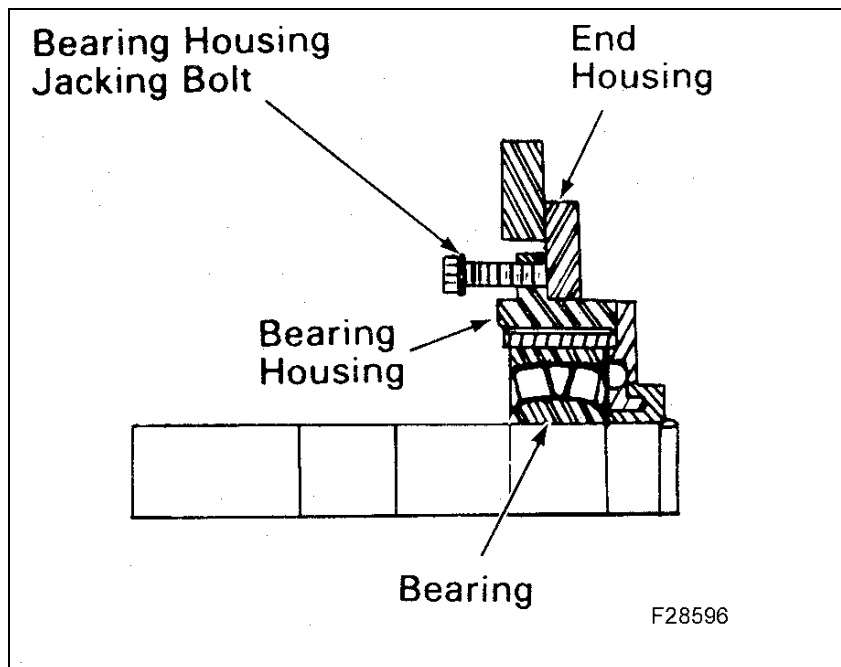

Figure 37 Bearing Housing Removal
15. Remove eight 3/4"-10 bolts securing bearing housing to end housing, Figure 37. Insert four 3/4"-10 jacking bolts equally spaced around the bearing housing in special holes provided. Turn jacking bolts equally until bearing housing is separated from the end housing.